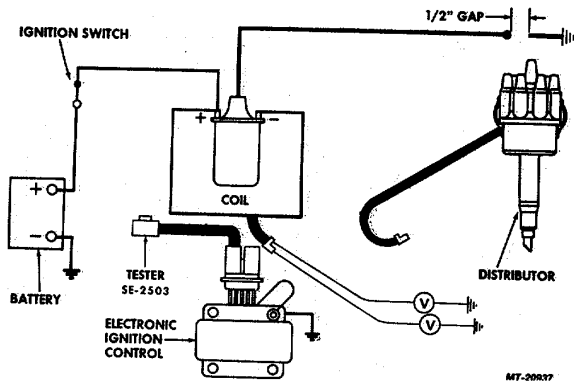

Fig. 8a
(1) Unplug primary wiring (coil-to-ignition control) connector at electronic control unit. Connect voltmeter from the harness male terminal to ground, then from the harness female terminal to ground (see Fig. 8a).